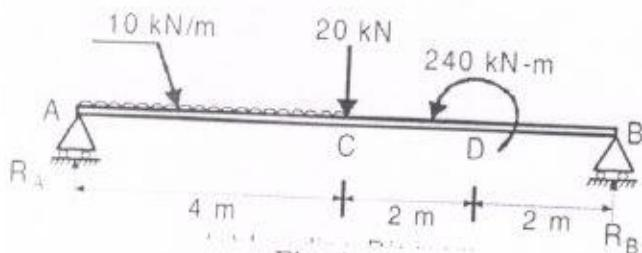

Fig. 4
Q.4. A A cantilever of 14-m span carrying loads is shown in Fig. 4. Draw the shear force and bending moment diagrams.